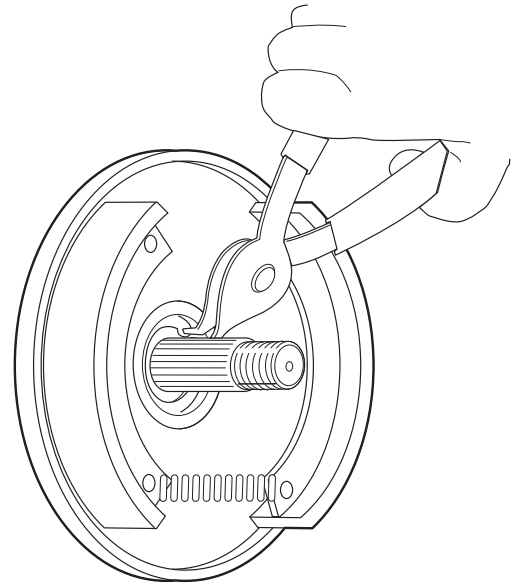

Figure 2 Removing/Installing Outer Snap Ring
2. Remove the outer snap ring from the axle tube (Ref. Figure 2).